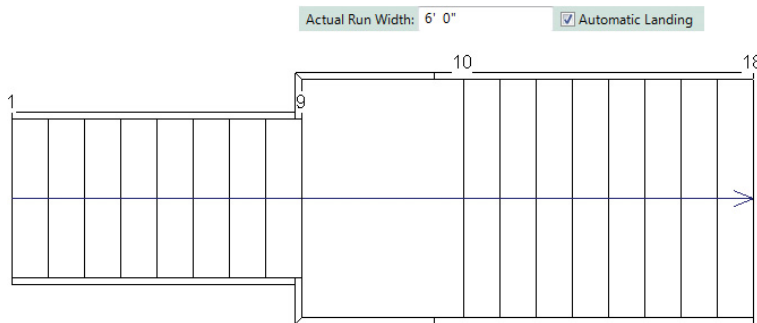

FIGURE 4.14 A second run of stairs and landing
3. By moving the mouse further right, you can define the landing. Set Actual Run Width to 6'-0" (this will set the second run width only). Click to begin the second run of stairs, and click again to end it after you've placed all the risers. The full stair in Sketch mode so far looks like Figure 4.14.